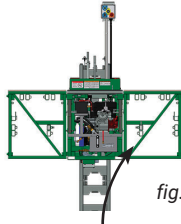

fig. 3.13
- 2- Bolt a bridge assembly to the motorized unit on one side of the mast. It is important to note that bridge support installation brackets cannot be used to support a bridge that is installed directly on the motorized unit. If the bridge installed on the motorized unit is a 30" (76 cm) bridge, make sure that the **upper corner of the diagonal brace is pointing outwards**, as shown in fig. 3.13.